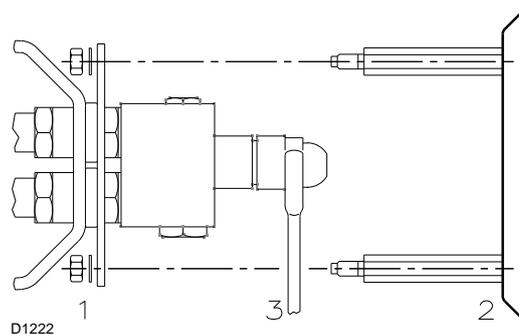

Fig. 16
- remove the nuts 1)(Fig. 16) and the disk 2);
- use spanner 3)(Fig. 16) to change the nozzles.